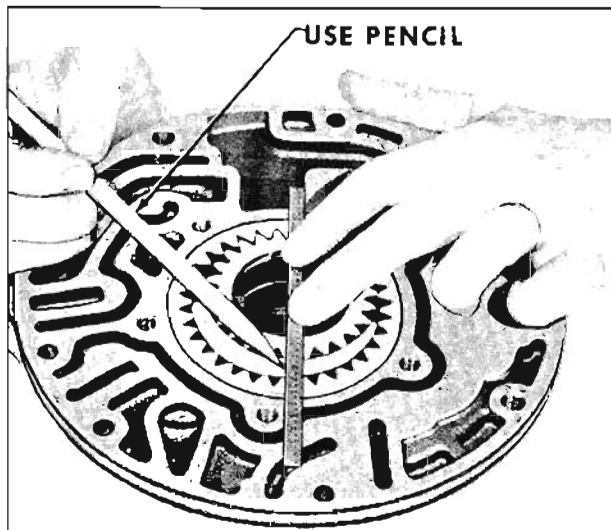

Fig. 6-324 Marking Oil Pump Gears
5. Mark, but do not scar, gear faces so gears can be reassembled in same manner. (Fig. 6-324)